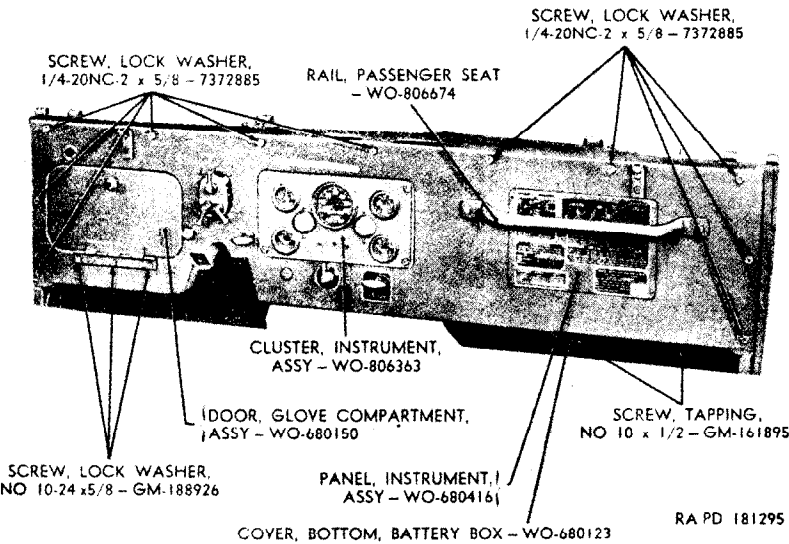

Figure 159. Instrument panel installed.
- a. *Instrument Panel.* To remove instrument panel (fig. 159) from body, proceed as follows:
- (1) Remove seven lockwasher screws securing instrument panel to top of body cowl.
- (2) Remove six lockwasher cap screws which secure right bottom side of instrument panel to the battery box brackets.